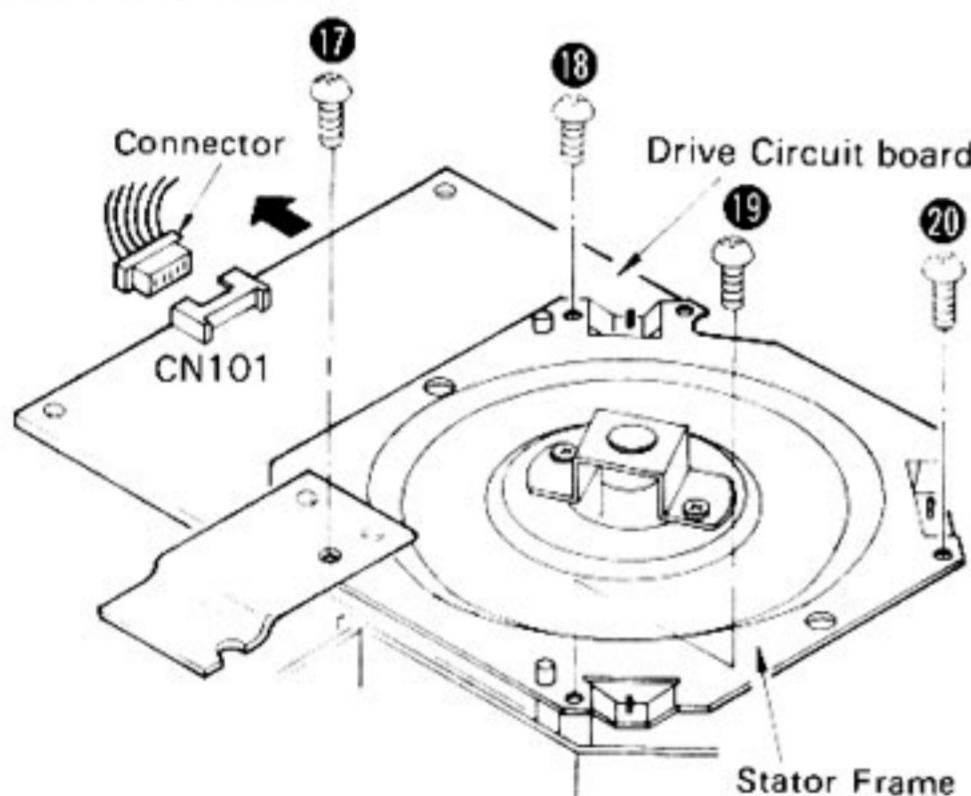

Fig. 6
2. Remove the 4 setscrews (Fig. 6: ⑯~⑰) of the stator frame.